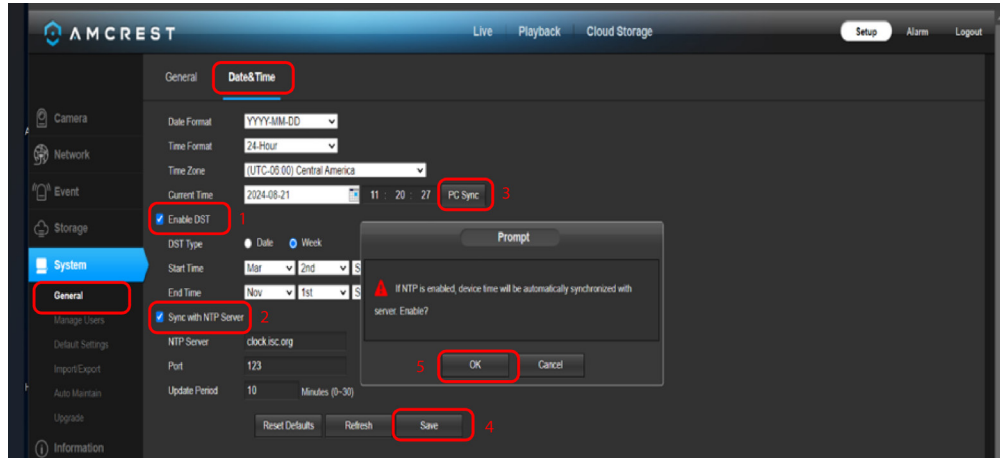

Fig. 2.9
7. Go to System>General>Date/Time (Fig. 2.9). Date and Time may need to be configured.
- Check the Enable DST box (1) if applicable for your location.
- Check the Sync with NTP Server box (2).
- Click/Tap on the PC Sync button (3).
- Save your selection (4).
- When the prompt appears, click/tap OK (5).